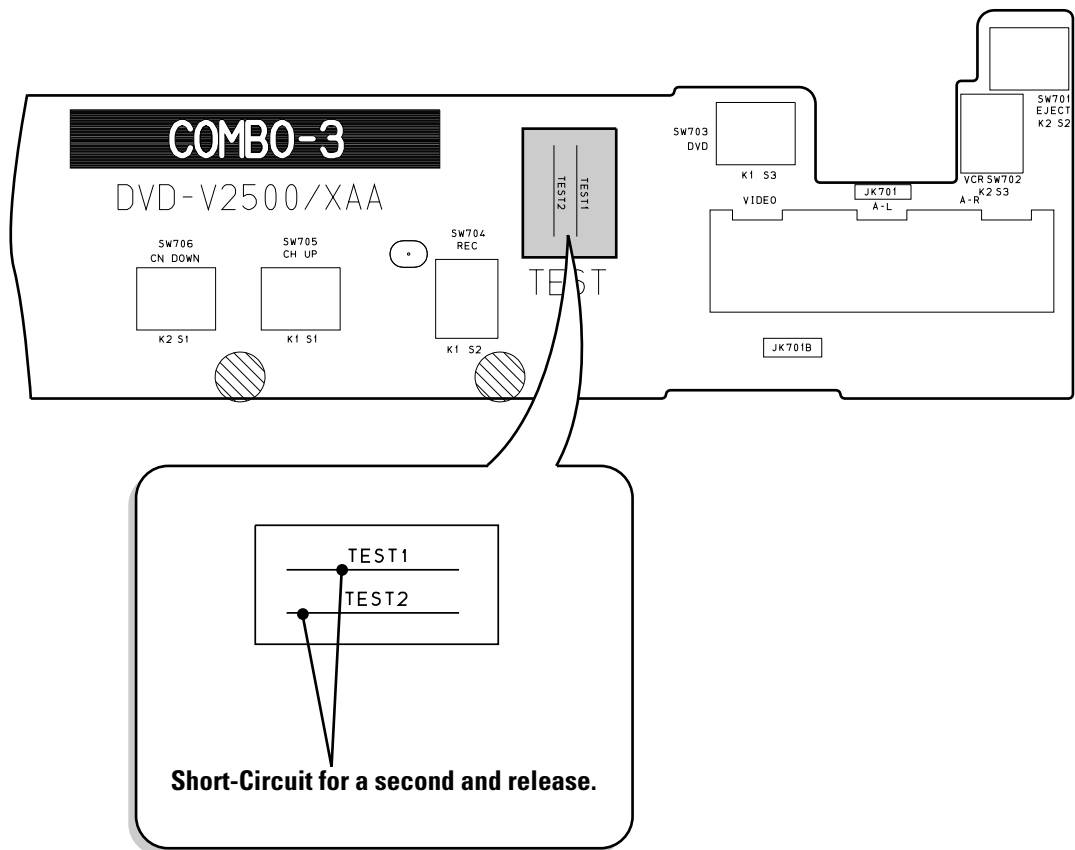

Fig. 4-2 Function-Timer PCB (Top View)
- 2) Momently short-circuit the test point on F/Timer PCB with pincers to set the adjustment mode. (See Fig. 4-2)
(See Fig. 4-2)